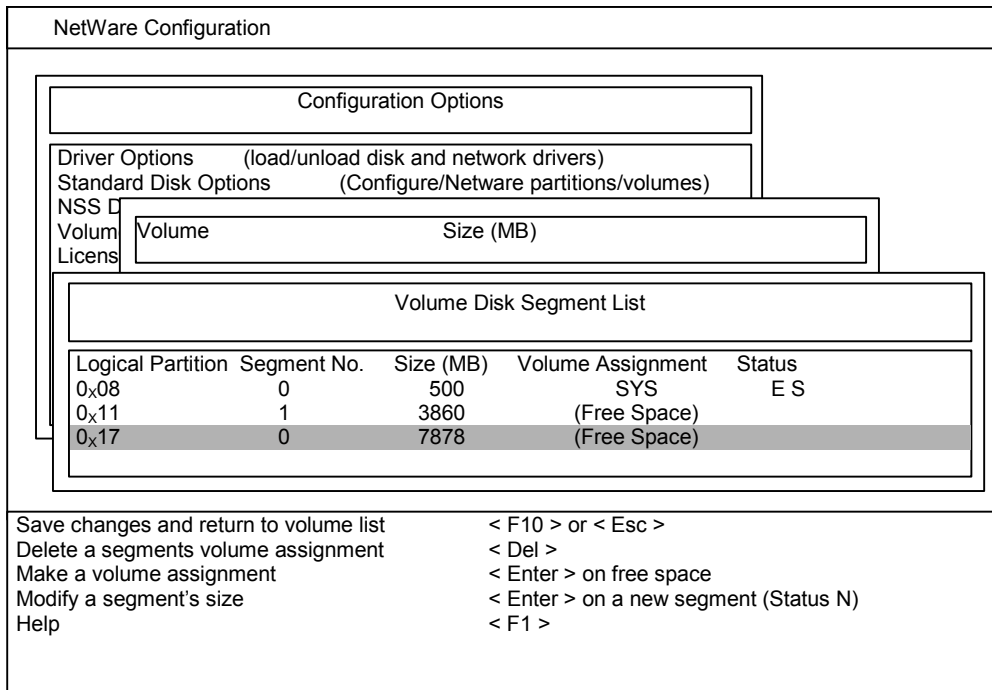

Figure 3.9 Displaying the Existing Devices and Selecting the Device
After you have created the disk partitions on the new devices, you are ready to assign the new SCSI disk devices to volumes, so that the NetWare® system can start writing to the new devices. Figures 3.9 through 3.15 show the sequence of screens displayed on the NetWare® server during the volume assignment process. **Reminder:** A volume can span as many as 32 devices, so you can assign more than one device to a volume.
3. The Volume Disk Segment List screen (see Figure 3.9) displays the existing devices by device number. The device numbers should be recorded on your SCSI Path Worksheet (step (3) in section 3.1). The **Volume assignment** column displays (**free space**) for each device which is not yet assigned to a volume.